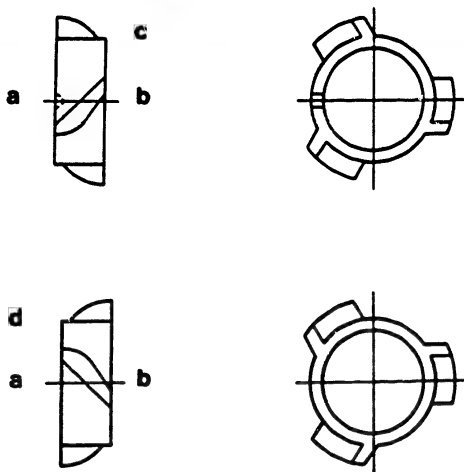

Fig. 48
2. The impeller's blade orientation depends on the direction of rotation of the injection pump, as shown in Figure 48.